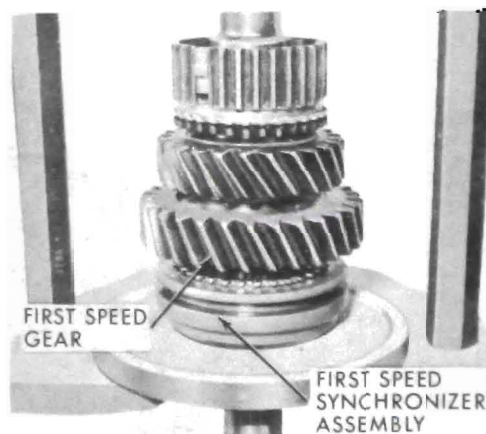

Figure 72-21 - Installing First Speed Gear
2. Install first speed gear and synchronizer on mainshaft. See Figure 72-21. Using ram press and Press Plate J-8609, press first speed synchronizer assembly (with identification ring toward rear of transmission) onto mainshaft. Install